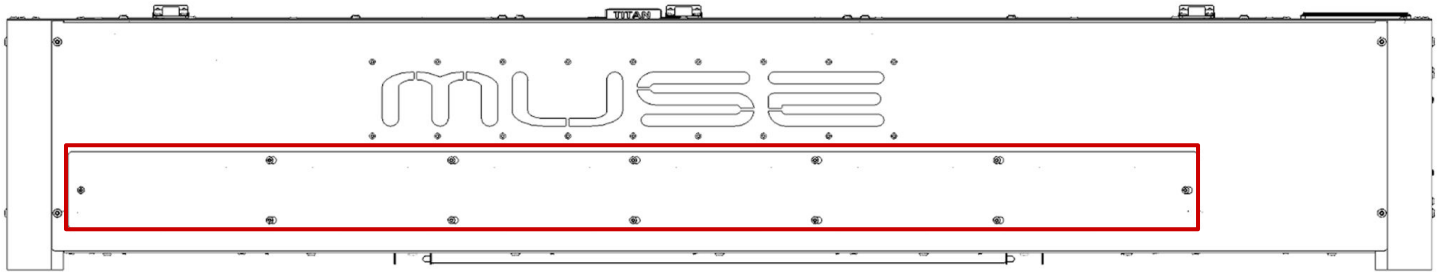

Fig. 21
1. The Muse Titan, along with other Muse models, come with pass-through in the front and back of the machine for projects that may require the use of longer materials, such as signs. All one needs to get the pass-through open is to loosen the twelve screws along the pass-through slot. (see Fig. 21)